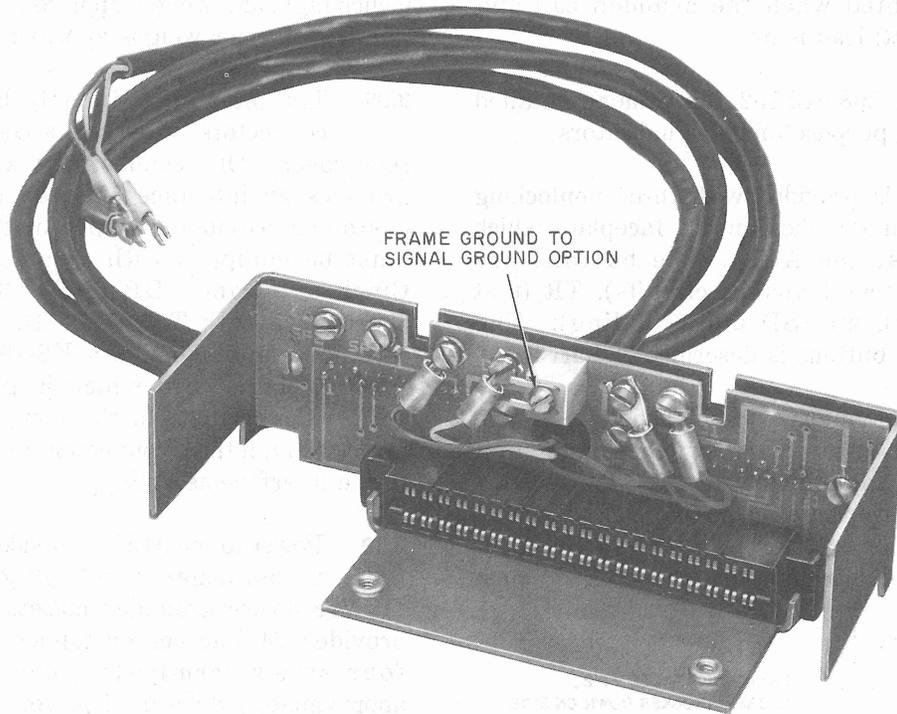

Fig. 4—Interface Assembly
2.07 The housing provided as part of list 2 is extruded aluminum with a brushed finish and front and rear black plastic covers. The circuit board assembly plugs into an interface assembly (Fig. 4) which mounts in the rear of the housing.